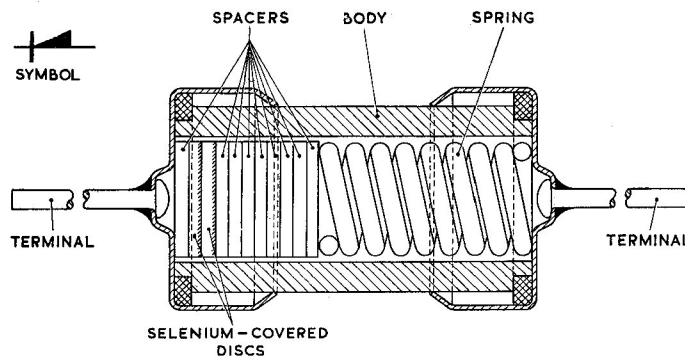

Fig. 1. Sectional view of rectifier, Westinghouse, Type 16K2
3. The unit consists of two selenium-covered steel discs, nine spacing washers and a coil spring, arranged in a bakelite body as shown in fig. 1. Steel covers with soldered-on wire terminals are crimped on each end of the body, and the whole assembly is hermetically sealed by Neoprene washers located between the covers and the ends of the body.